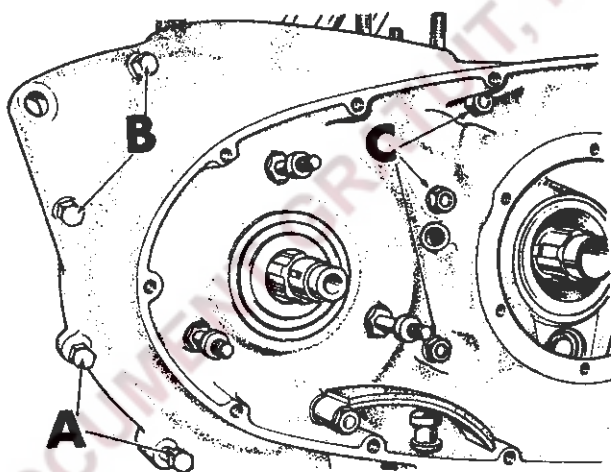

FIG. B.61. Crankcase bolts.
Remove the nuts and washers from the two bolts (A) at the lower front of the case, the two bolts (B) at the upper front and the three studs (C), Fig. B.61.